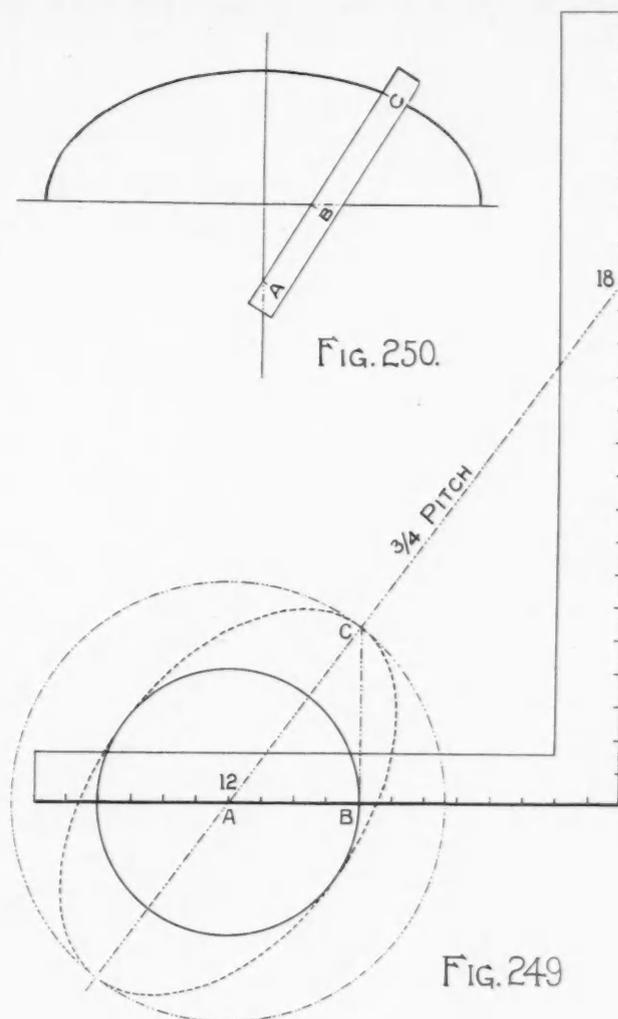
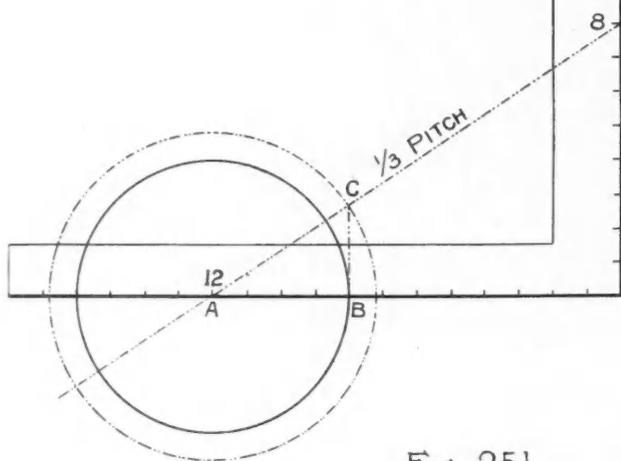

FIG. 249
FIG. 251.
**T**AKING up the work where we left off last month, we will continue with the ellipse, showing how an opening for a round pipe in a pitched roof, or partition, may be found at any angle, as shown in Fig. 249. Here we have a 6-inch pipe, intersecting a  $\frac{3}{4}$  pitch. A line from 12 to 18 on the square represents the pitch. Now, with 12 as center and with a radius equal to one-half of the diameter of the pipe, draw a circle and square up from the tongue to the pitch, as shown at B C. Then A B represents one-half of the short diameter, and A C one-half of the long diameter.
In Fig. 251 is shown the same formula as shown in Fig. 249, but with the one-third pitch and an 8-inch pipe.